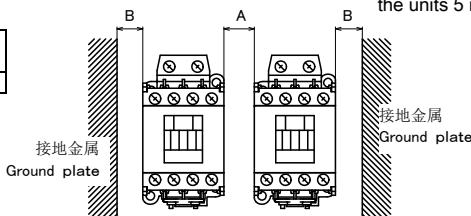
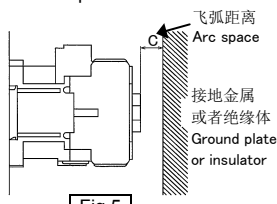

Fig.4
Fig.5
4. 安装空间 (Fig. 4, 5)
4. Mounting space (Fig.4, Fig.5)